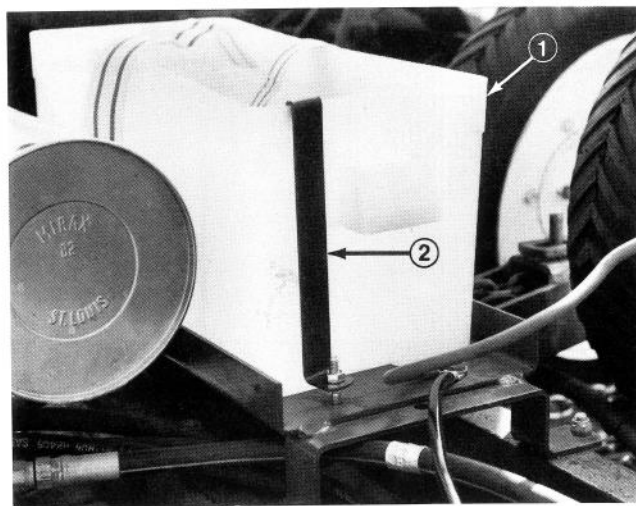

Figure 9
16. Mount battery box to power pack support with (2) holddown straps, 5/16 – 18 x 1 1/4" capscrews, .344 I.D. washers and locknuts (Fig. 9).